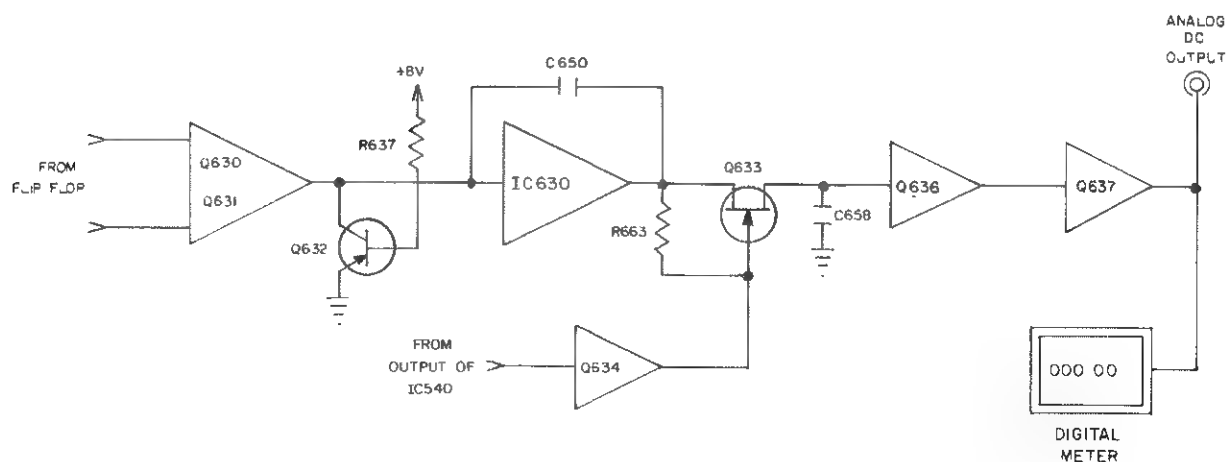

Figure 14. Differential Amplifier and Meter Network
4.9 DIFFERENTIAL AMPLIFIER AND METER NETWORK (see figure 14)